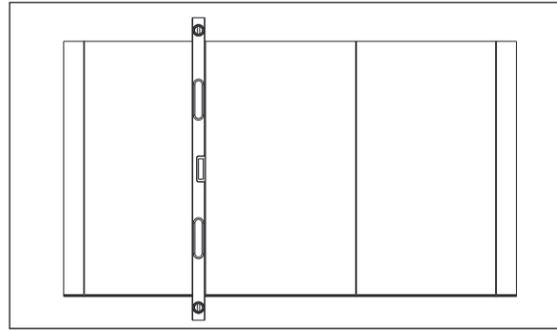

Figure 3: Use Digital Level to Draw Vertical Line
- d. Use a digital level to draw a vertical straight line from that point. Refer to **Figure 3**. The line does not need to be longer than 3' [.9 m].